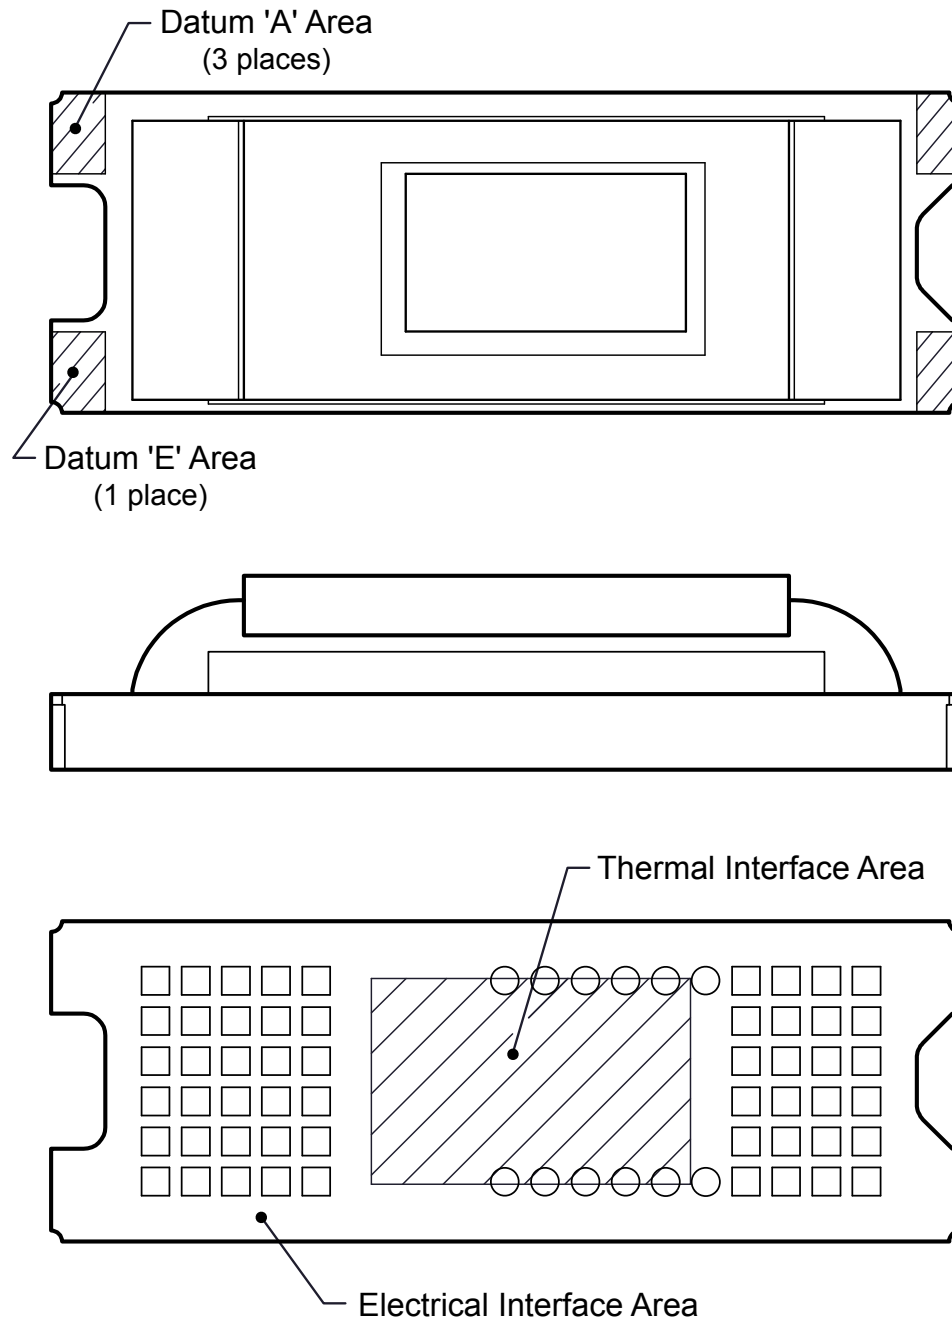

图 6-14. System Interface Loads
(1) Uniformly distributed within area shown in 图 6-14.